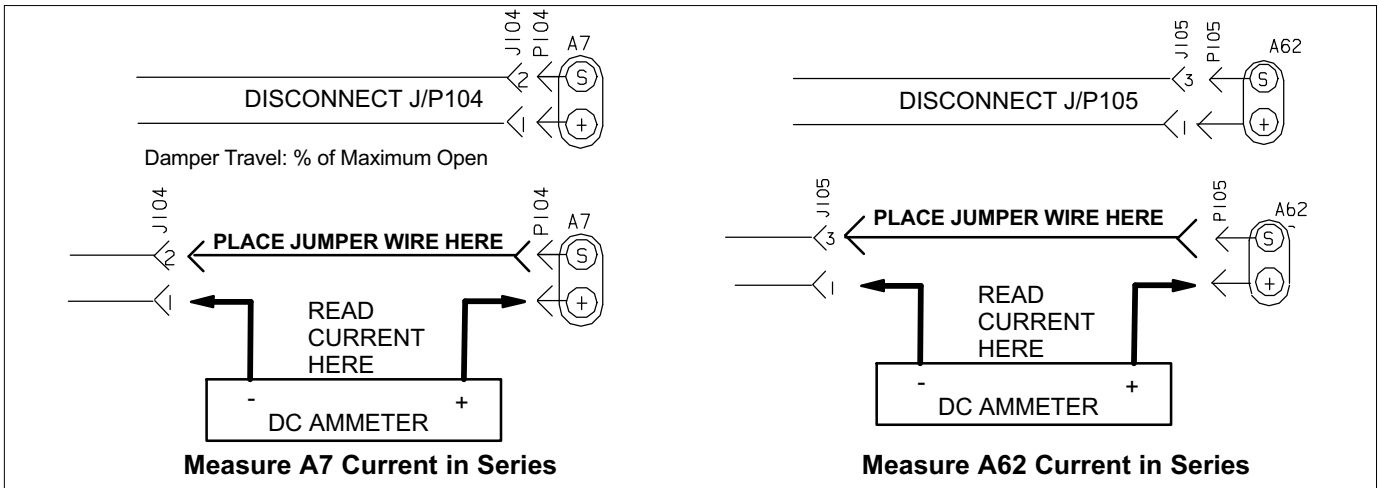

Figure 4. Measure A7 and A62 Current in Series
- A** Connect a direct current ammeter as shown in figure 4 to measure current output of A7 or A62.